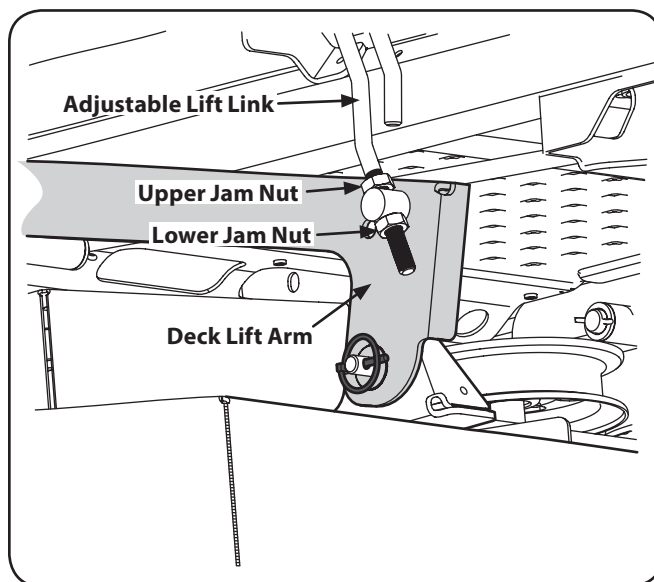

Figure 6-7
- Loosen the lower jam nut on the adjustable lift link attached to the deck lift arm to lower the deck and tighten the upper jam nut to secure the deck in place, loosen the upper jam nut then tighten the lower jam nut to secure the deck in place. See Figure 6-7.